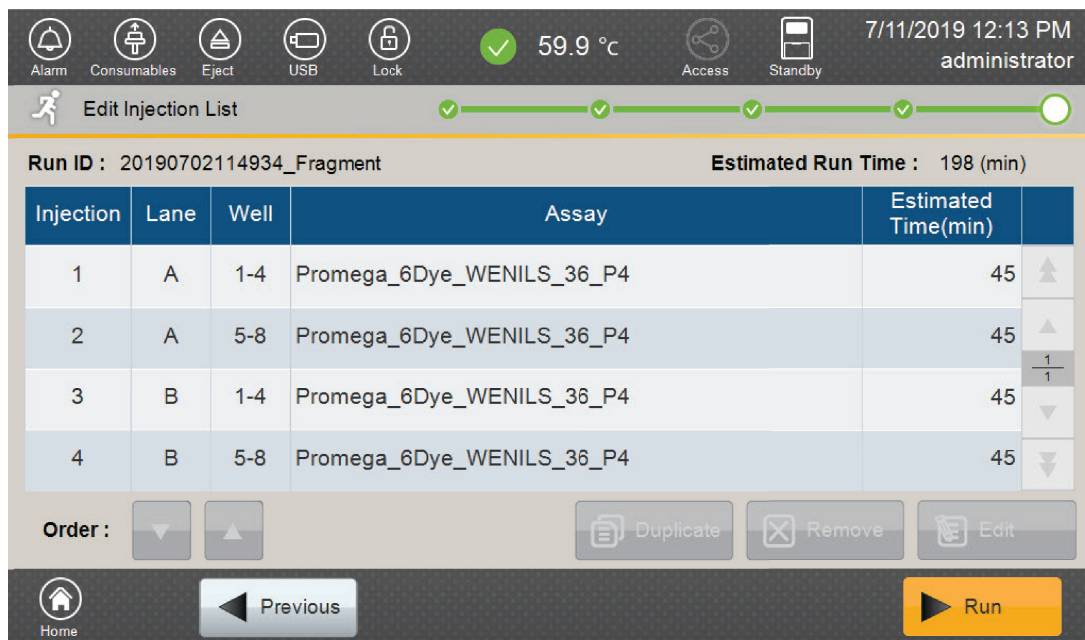

Figure 23. 'Edit Injection List' screen.
4. After the autosampler has returned to its home position, the 'Edit Injection List' screen will be displayed (Figure 23).